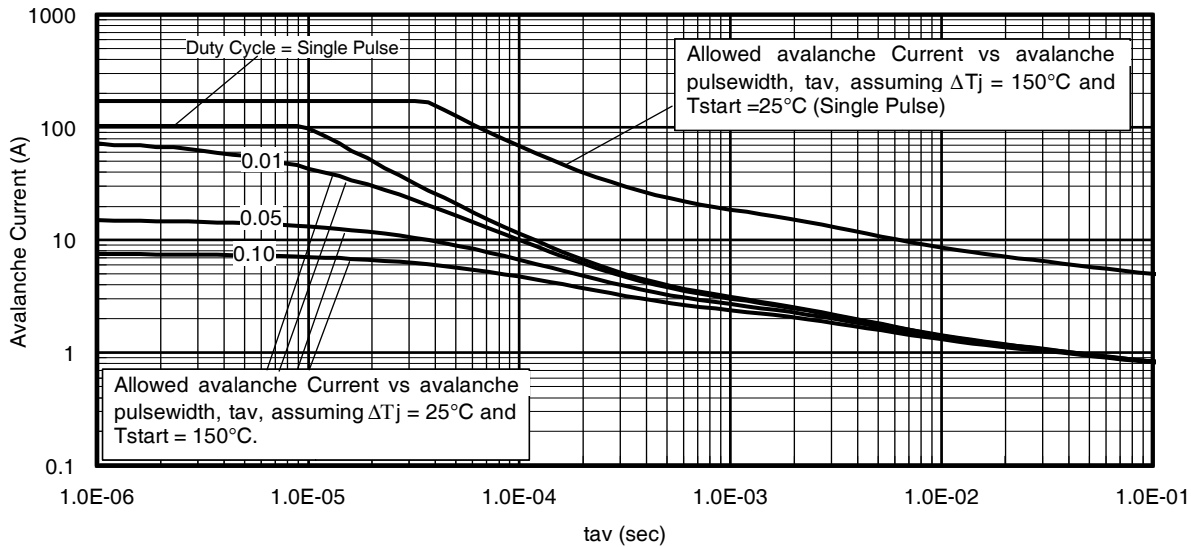

Fig 14. Typical Avalanche Current vs. Pulsewidth
| I_{AR} | Avalanche Current ① | See Fig. 14, 15, 22a, 22b, | A |
Notes on Repetitive Avalanche Curves, Figures 14, 15:
7. ΔT = Allowable rise in junction temperature, not to exceed T_{jmax} (assumed as 25°C in Figure 14, 15).